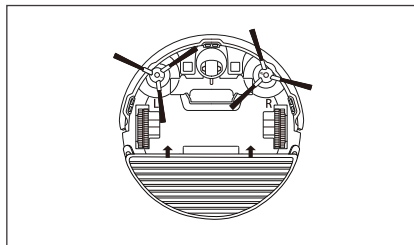

Figure 1
- Edge Mode: Press the button once to enter edge cleaning when robot is in selected mode. (Refer to Figure 1)
2. The mop bracket with mop should be on the robot when the water tank is used. (Figure 1)